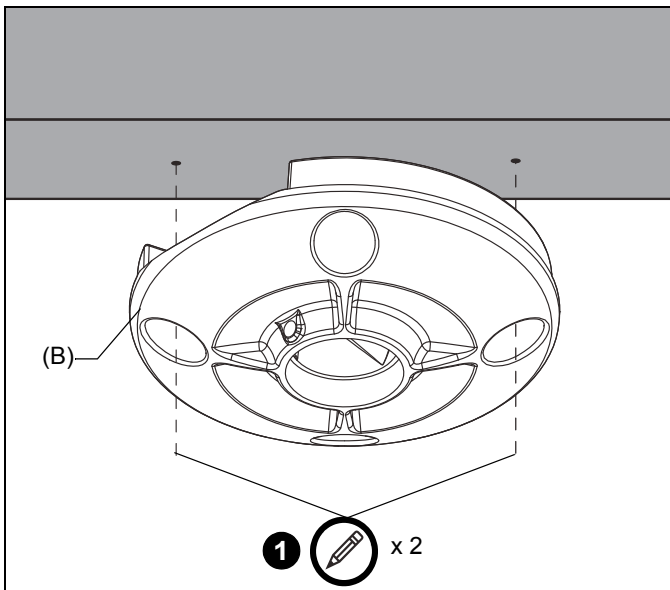

Figure 1
1. Using ceiling plate (B) as a template, mark locations of two pilot holes. (See Figure 1) Ensure the following:
- *OPPOSITE* holes are used in plate (B), and